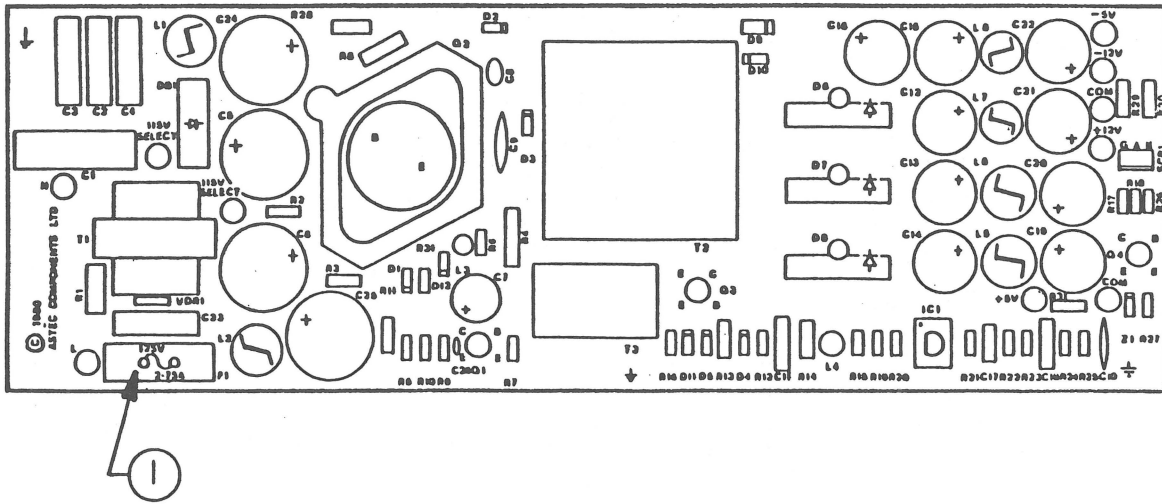

FIGURE 5
- IPL.9 Power Supply (Figure 5)
□ POWER SUPPLY (Figure 5)